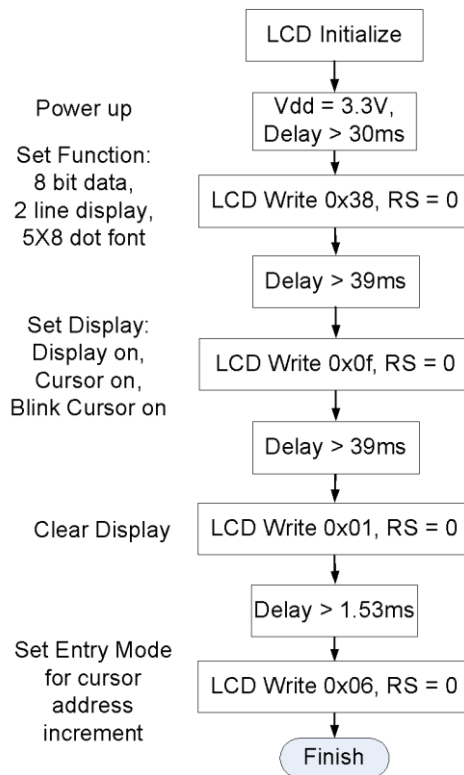

Figure B.2. Control flow diagram for the LCD initialization.
- a. Initialize the LCD using the recommended sequence of instructions to write specific codes to the LCD at specified intervals, shown in the control flow diagram of Fig. B.2.